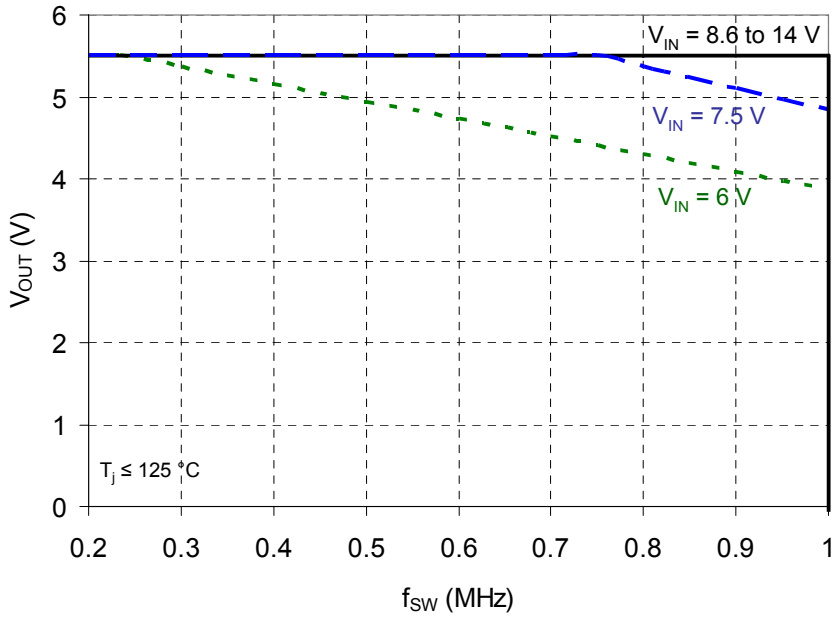

Figure 5. Safe Operating Area
1. Refer to Safe Operating Area in Figure 5 and thermal design guidelines in AN10.